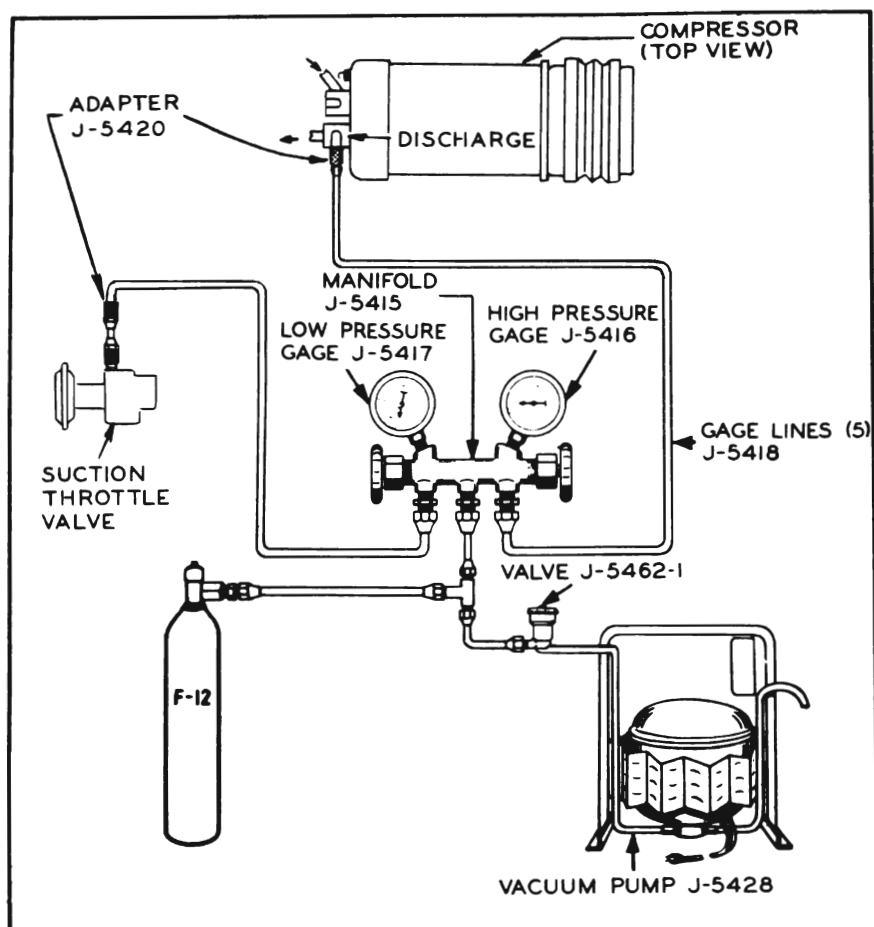

Figure 11-149—Service Gauge Hook-Up
in Figure 11-149 and discharge any refrigerant that may be in system.
1. With the vacuum pump, refrigerant-12 cylinder and gauge set connected to the compressor as shown in Figure 11-149, place the cylinder in a bucket of hot water which does not exceed 125°F.
5. Gage set connected to Schrader valve fittings as shown in Figure 11-149.
4. Gage set connected to Schrader valve fittings as shown in Figure 11-149.
7. Check ambient air temperature and air temperature at right air outlet following instructions on functional test charts. See Figure 11-150 and 11-151. Temperature should correspond with those listed on chart. If temperatures do not compare, attach gauge set (Figure 11-149) and functional test air conditioner.